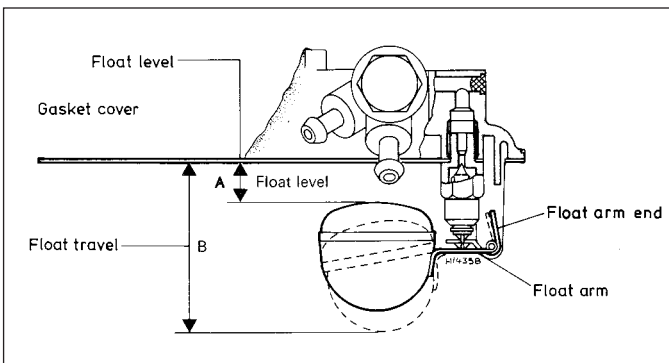

Fig. 3.10 Float setting diagram (Weber 32 ICEV 50/250) (Sec 9)
- 6 Reassemble and check the float setting. Do this by holding the top cover vertically so that the float hangs down under its own weight. Measure dimension (A) (Fig. 3.10) which should be between 10.50 and 11.10 mm (0.41 to 0.44 in) with the gasket in position. If necessary, bend the float arm tab to adjust.